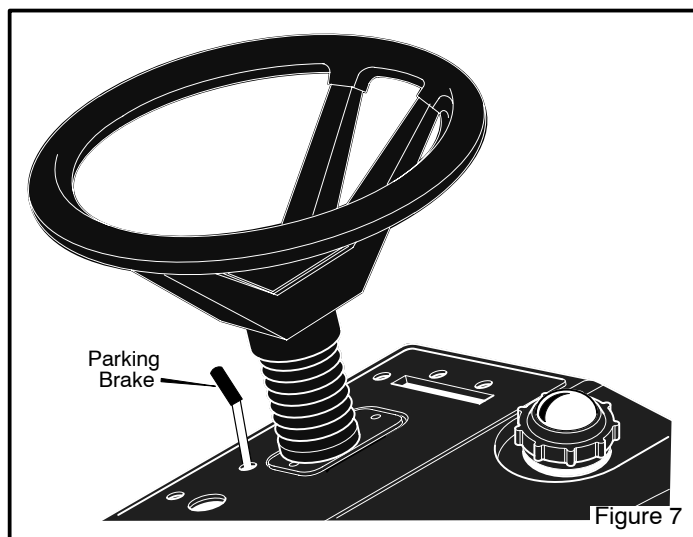

Figure 7
2. Lift the **parking brake lever** (Figure 7).
**WARNING:** Before you leave the operator's position, move the shift lever to the neutral (N) position. Set the parking brake. Move the blade rotation control to the DISENGAGE position. Stop the engine and remove the ignition key.